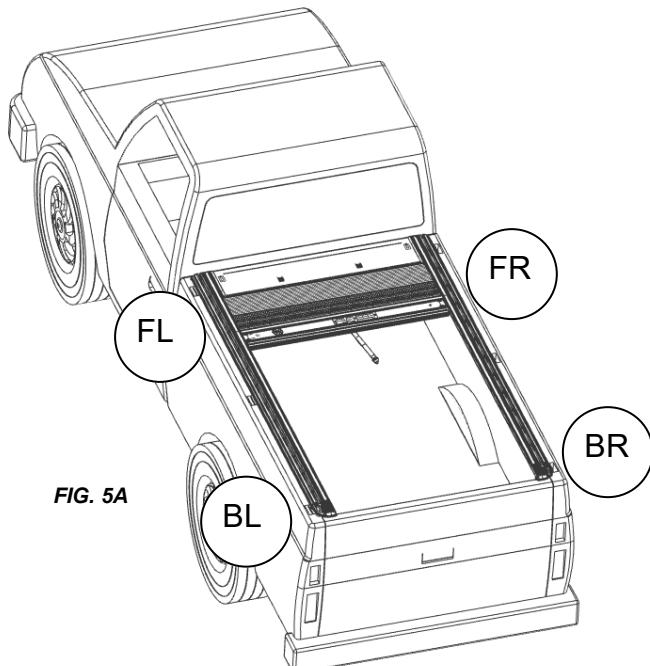

FIG. 5A
Slide the clamp extensions on the tailgate and cab end of each rail as pictured in Figure 5A-E. Ensure that your tailgate end and cab end extensions are in the correct orientation and have the correct stick on shims. Each clamp extension is labeled for front left (FL), front right (FR), back left (BL), and back right (BR). The extensions go on the corners shown in figure 5A.